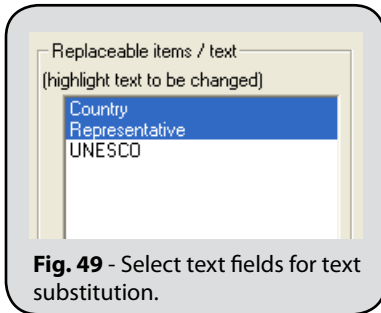

Fig. 49 - Select text fields for text substitution.
2. In the **Replaceable items / text** list, click each item for which text replacement should be applied. For this example, only the first two text fields have been selected (Fig. 49).